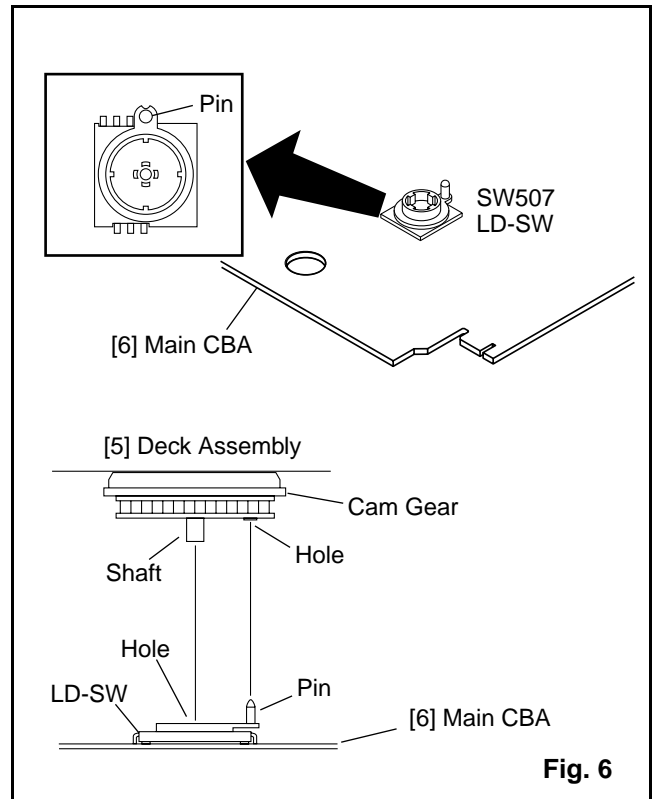

Fig. 6
- Before installing the Deck Assembly, be sure to place the pin of LD-SW on Main CBA as shown in Fig. 6. Then, install the Deck Assembly while aligning the hole of Cam Gear with the pin of LD-SW, the shaft of Cam Gear with the hole of LD-SW as shown in Fig. 6.